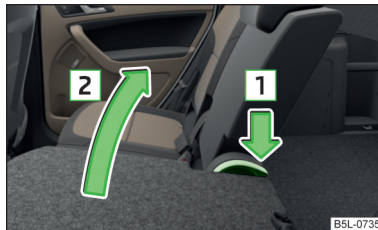

Fig. 66
- › Press the lever in direction of arrow **1** » Fig. 66 and fold back the seat backrest in the direction of arrow **2**. Check this by pulling on the seat backrest.